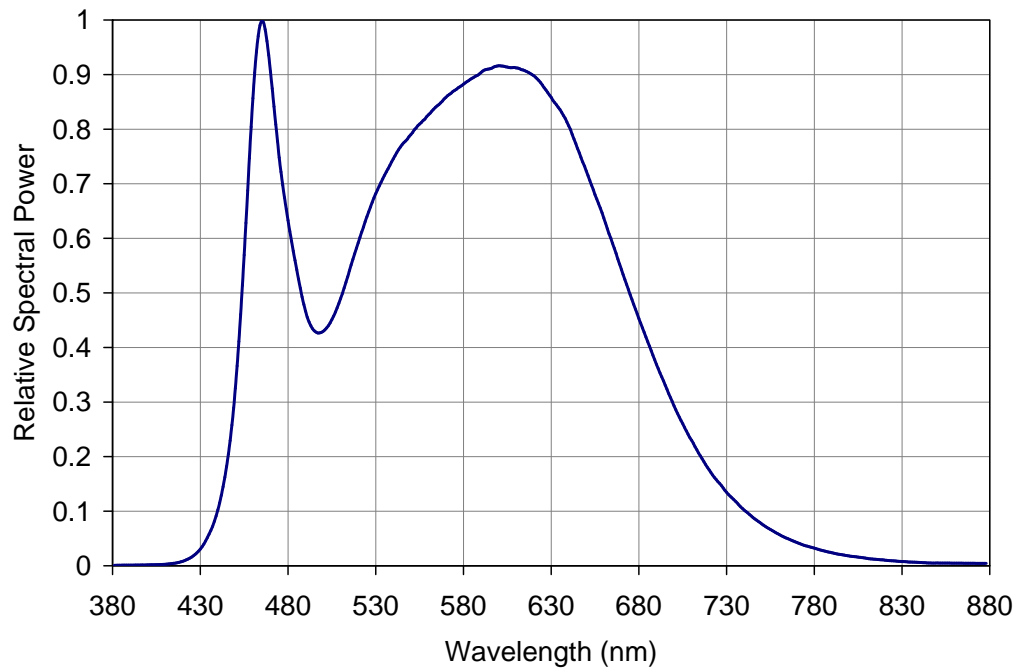

Figure 5: Typical relative spectral power vs. wavelength @ $T_c = 25^\circ\text{C}$.
- Solder conditions per JEDEC 020D. See Reflow Soldering Profile Figure 5.